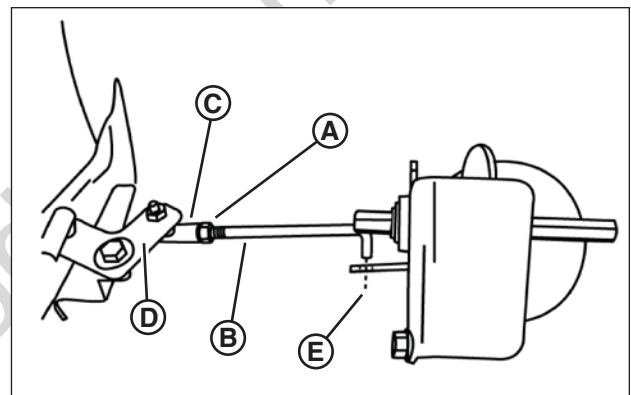

Figure 29: Adjusting the transfer rod
4. Loosen the jam nut (A, **Figure 29**) securing the transfer rod (B) to the ball joint (C) on the pivot bracket (D).
5. Turn the rod in or out of the ball joint until the end of the rod aligns with the hole (E) in the driven disc assembly from which the rod was removed.